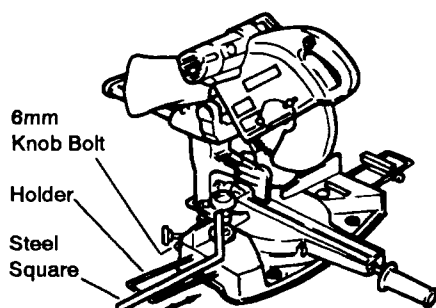

Fig. 12
- (1) As indicated in Fig. 12, use a steel square for aligning the upper edge of the holders with the base surface.
- (2) After aligning, secure the holders with the 6mm knob bolts.